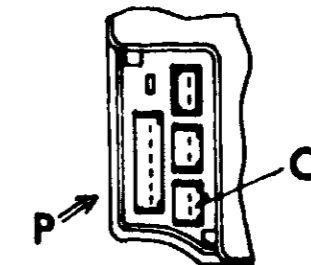

FIGURE 2
2. Take out cord guard (C) by removing screw (A)
3. Remove switch bracket (E) from casting, by removing two screws (B) and (D)
4. Release wires from clamp (G) inside machine arm column
5. Pull 6-pin plug from receptacle (Q) on main control box (Figure 2)
7. Take off cord guard (F) on back of casting behind main control box
9. Disassemble cycle control switch from bracket (E) by removing 2 screws (H) and (J)